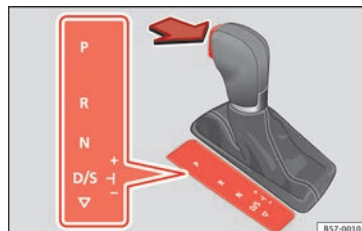

Fig. 175 Selector lever lock.
- Press the brake pedal *and*, at the same time, hold the lock button in the direction of the arrow »» **Fig. 175.**